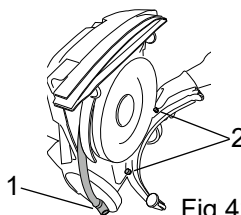

Fig.42
- Detach the suction hose from the squeegee (fig. 42, ref. 1).
- Unscrew the knobs (fig.42, ref. 2).